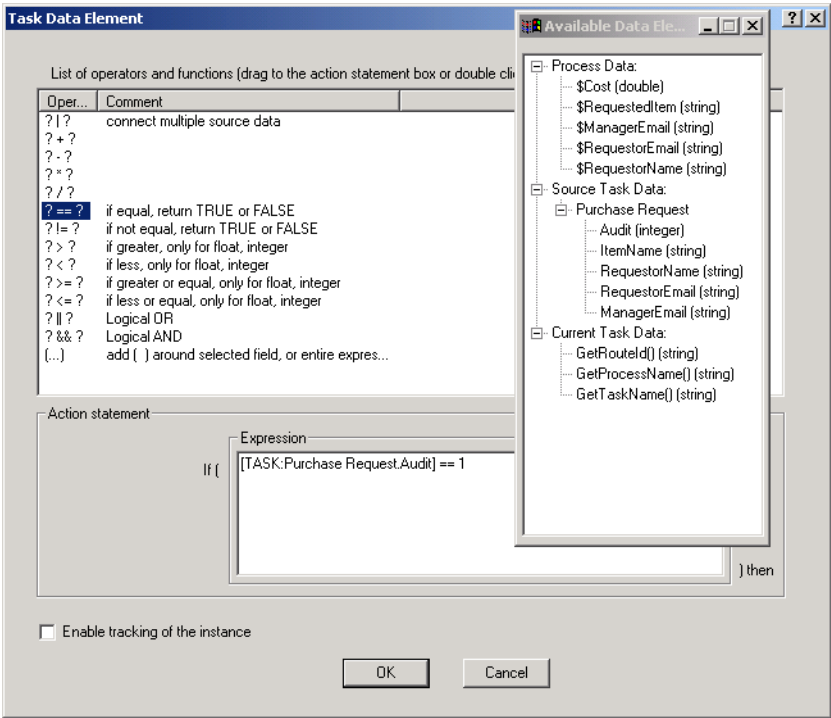

Figure 31-6. Building an If/Then Statement with the Audit data element.
- ③ The Task Data Element dialog appears. This is where you build your If/Then Statement using data elements and operators or functions (see Figure 31-6, below).